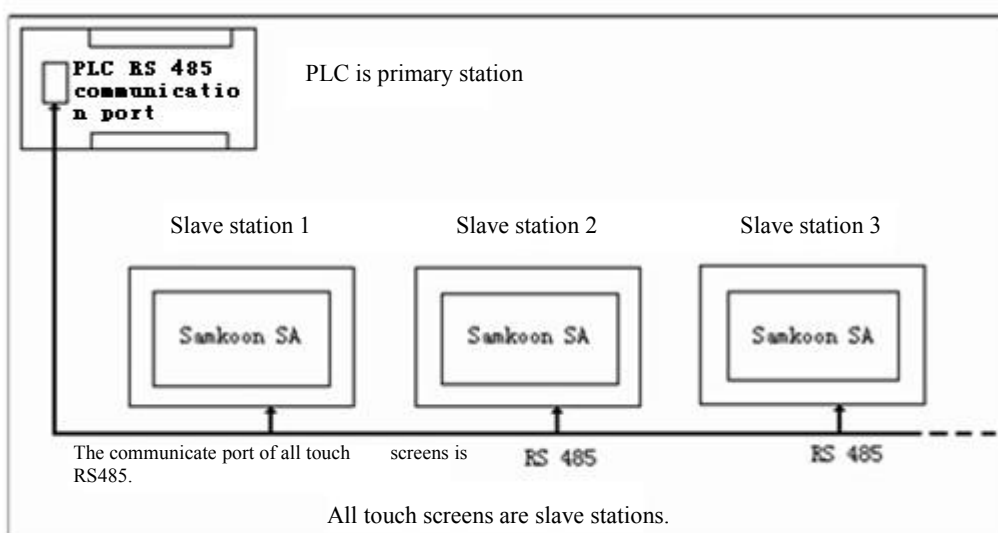

Figure 9-4 Schematic diagram of connection mode “One device with multiple screens” When PLC (RS485) is primary station
2. The communication port connected with PLC is RS485 with connection mode as shown in figure 9-4.